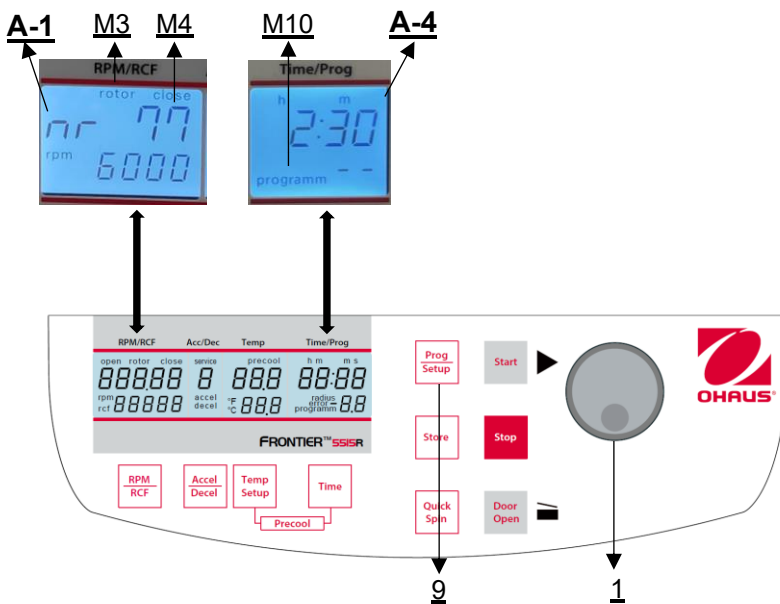

Figure 25
To recall stored programs, press the key **"Prog/Setup"** (9) (see Figure 25) while the lid is already closed. Inside the display **"Time/Prog"** (A-4), **"program--"** (M10) appears. The desired program number can be pre-selected with the adjusting knob (1).
To leave the program mode just press the key "**Prog/Setup**" (9) (see **Figure 25**). Then inside the display "**Time/Prog**" (A-1) the word "**programm**" (M10) appears. Set the display to "**programm--**" (M10) with the adjusting knob (1).